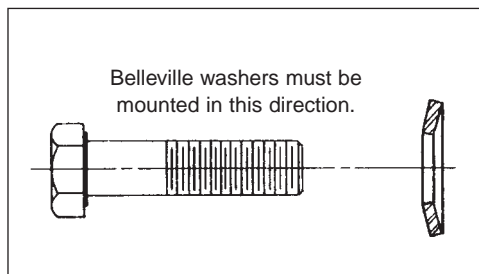
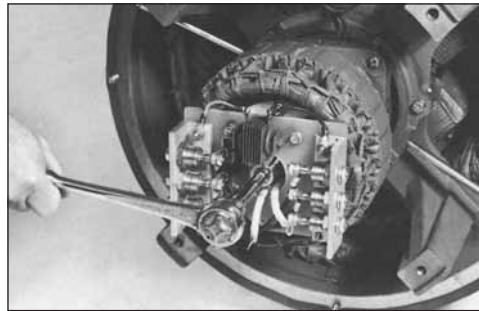

Figure 6-72
Figure 6-73
Insert the capscrew and belleville washer (figure 6-72) through the mounting hole in the aluminum standoff plate and secure to the shaft (figure 6-73). Tighten the capscrew until the armature seats on the shaft. Torque to 84 ft-lb (114 N-m) for 1/2" bolt or 190 ft-lb (255 N-m) for 3/4" bolt.
3. Position the exciter field leads at the left (9 o'clock) inboard position. Using a suitable lifting device, mount the exciter stator on the front end bracket mounting pads and align the mounting holes (figure 6-75). Mount with the capscrews and belleville washers (figure 6-72). Torque the capscrews to 60 ft-lb (81 N-m). Route and secure the exciter stator leads away from any moving parts.